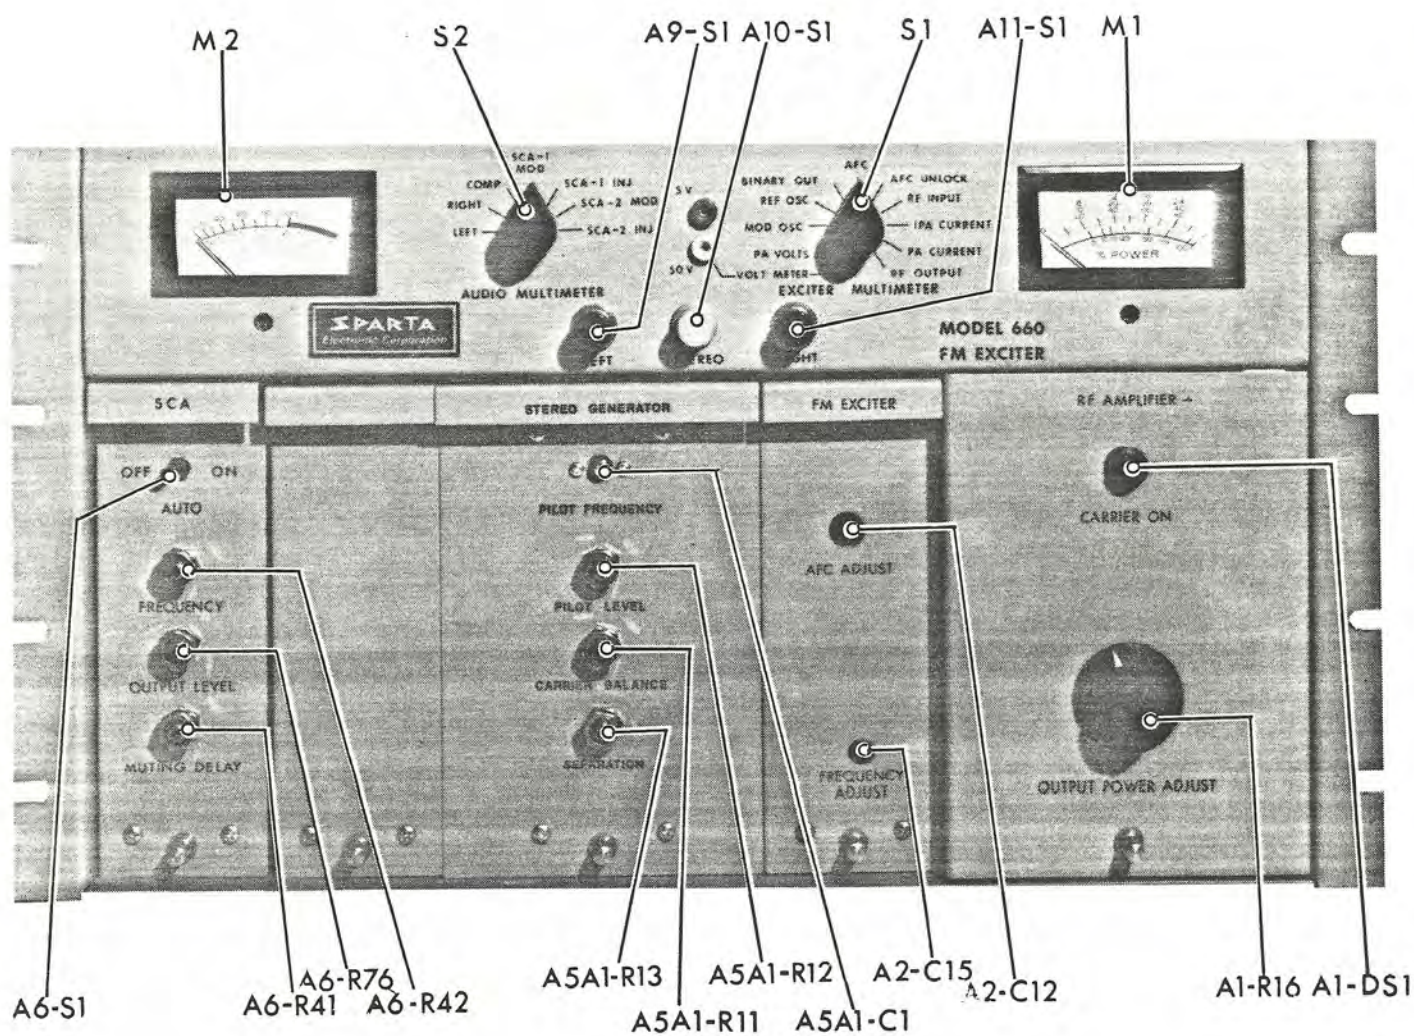

FIGURE 3-5 EXCITER FRONT PANEL
- e. Set EXCITER MULTIMETER function switch S-1 (figure 3-5) to the following positions and verify and record meter indications in accordance with final test data shipped with the transmitter;